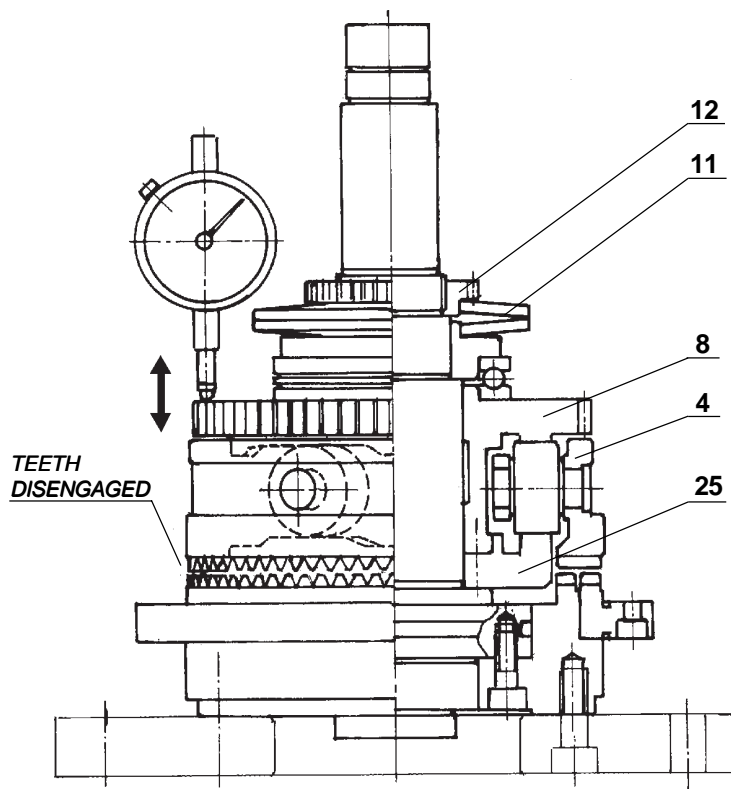

FIG 17.4 INSPECTION OF AXIAL CLEARANCE OF DRUM CAM ASSEMBLY
(fig 17.4): Hold sliding coupling (4) by one hand and rotate cam gear (8) by the other hand, till the coupling teeth are dis-engaged as shown in fig 4. Now place springs (11) and lock-nut (12) in position. Tighten locknut by hand, so that it will press the springs with a light pressure. Check axial clearance of drum cam by a dial indicator as shown in figure by lifting and lowering the cam gear by hand. Clearance should be within 0.1 to 0.2 mm. If clearance is low, it should be adjusted by surface grinding the bottom face of cam flange (25). If the clearance is more, it should be adjusted by replacing the flange (25) by a new flange of suitable extra thickness.
17.17 Remove disc springs (11) and screw in locknut (12) till it butts against shaft shoulder. Measure the gap between the nut face, and threaded shoulder (fig. 17.4). Mark a line on the nut face and spindle shaft to indicate the angular alignment.